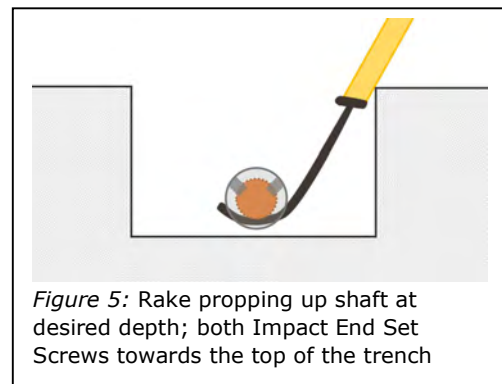

Figure 5: Rake propping up shaft at desired depth; both Impact End Set Screws towards the top of the trench
- Using blocks or a rake, prop up middle of tool shaft at the desired depth (Figure 5)